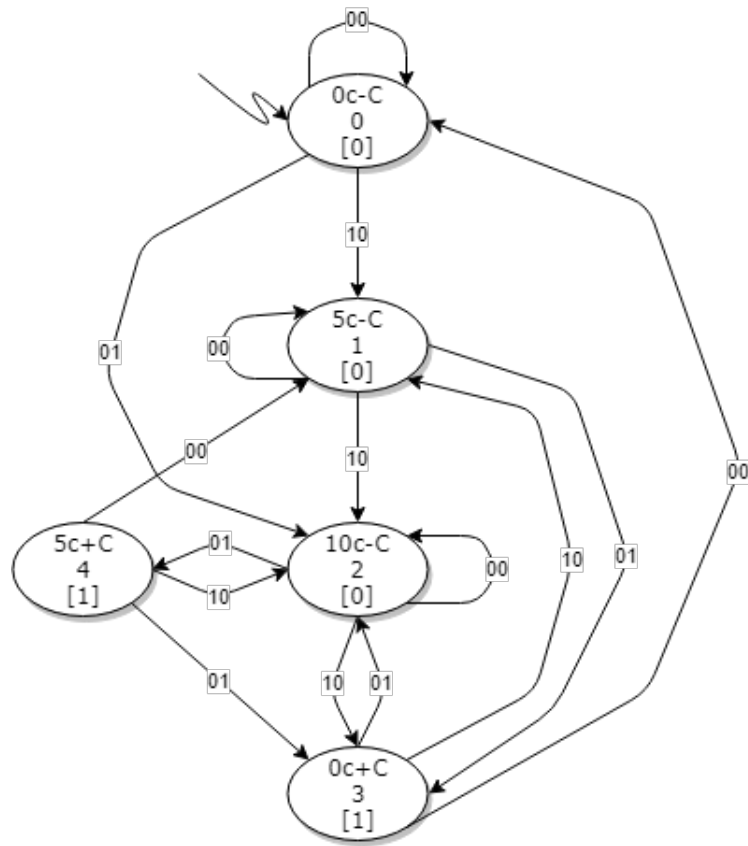

Figure 1: State diagram of the Moore coffee machine.
You have now created the IP block and added the module to the block. The next step is to implement the FSM logic. The FSM diagram is depicted in figure 1. The FSM has an output `coffee` and an input `coins`. The output `coffee` is used to let the user know that their coffee is ready. `coins` represents the coins that the user inserted into the coffee machine. In Fig. 1, every state ellipse has the following info (`wcxC,y,[z]`): `w` is the cents in the machine, `x` is the coffee output (+ for true, - for false), `y` is the output `state_display` and `z` is output `coffee`. On every state transition arrow the input `coins` is written down.
2. Write the implementation of the finite state machine as provided in Fig. 1. Make a transition when the `insert` button is pressed and reset the FSM when `reset` is high. Only update the output at the positive edge of the clock and only use edge triggering of the clock signal. To make sure that you only make a transition when the `insert` is **pressed**, check whether the current value is different from its previous value. **Do not use: `always @ (posedge insert)`.**